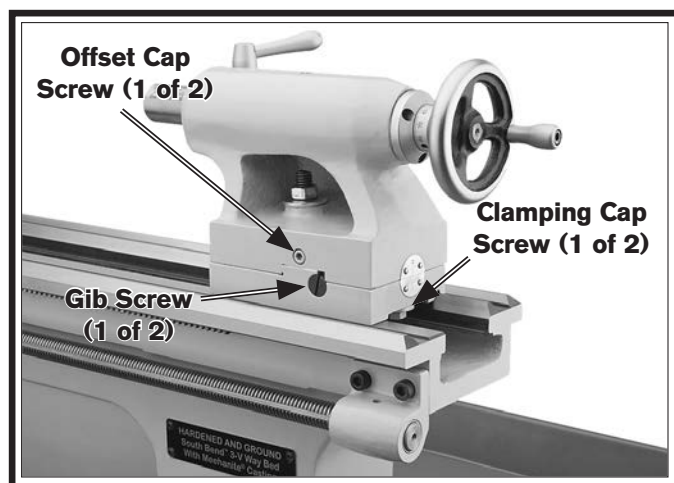

Figure 87. Tailstock gib controls.
1. Loosen the clamping cap screws on both ends of the tailstock so that the top casting can move independently from the bottom casting (see **Figure 87**).